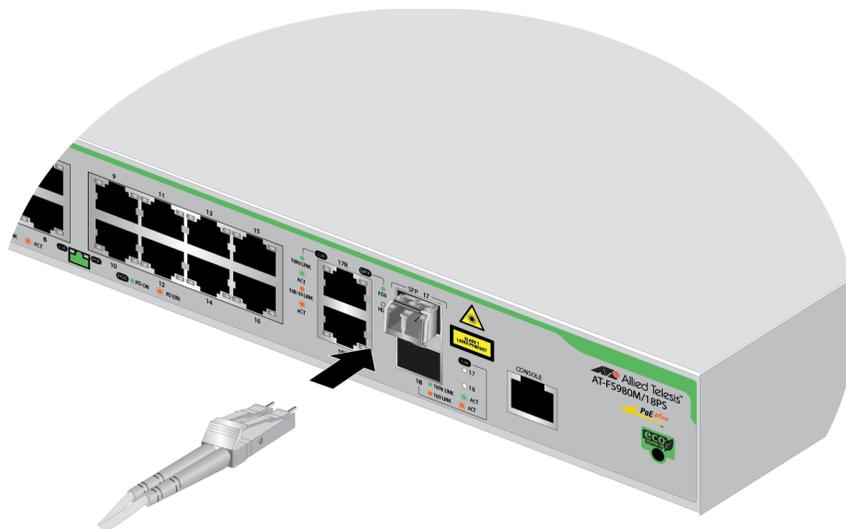

Figure 35. Connecting the Fiber Optic Cable to the SFP Module
5. Connect the fiber optic cable to the SFP module, as shown in Figure 35 on page 64.